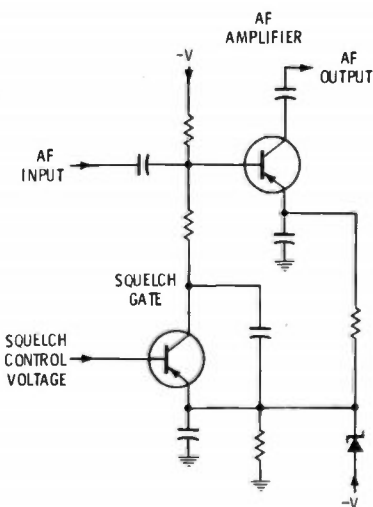
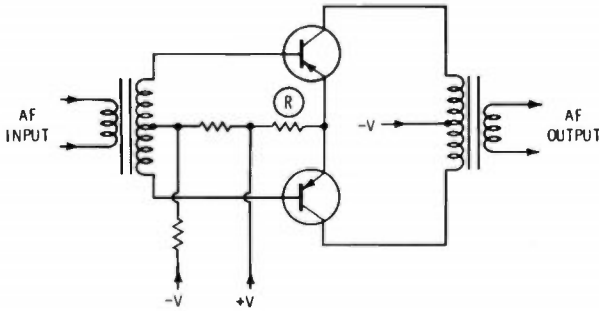

Fig. 8-3. Squelch-controlled af amplifier circuit.
Fig. 8-4. Class-B push-pull af amplifier.
Ordinarily in rf, mixer, and i-f stages, the transistors are forward biased. This causes collector current to flow at all times. (Tubes, on the other hand, are reverse biased to limit plate current.) An af amplifier stage controlled by a squelch circuit usually has no forward bias on the base or is reverse-biased so that it does not conduct until unsquelched. In Fig. 8-3, the amplifier transistor conducts only when the intercepted signal is strong enough to overcome the squelch. A Class-B af amplifier stage (Fig. 8-4) is only slightly forward biased. Collector current is low when no signal is present; it rises as the signal level increases. The voltage across the emitter resistor (R) should increase with signal level.